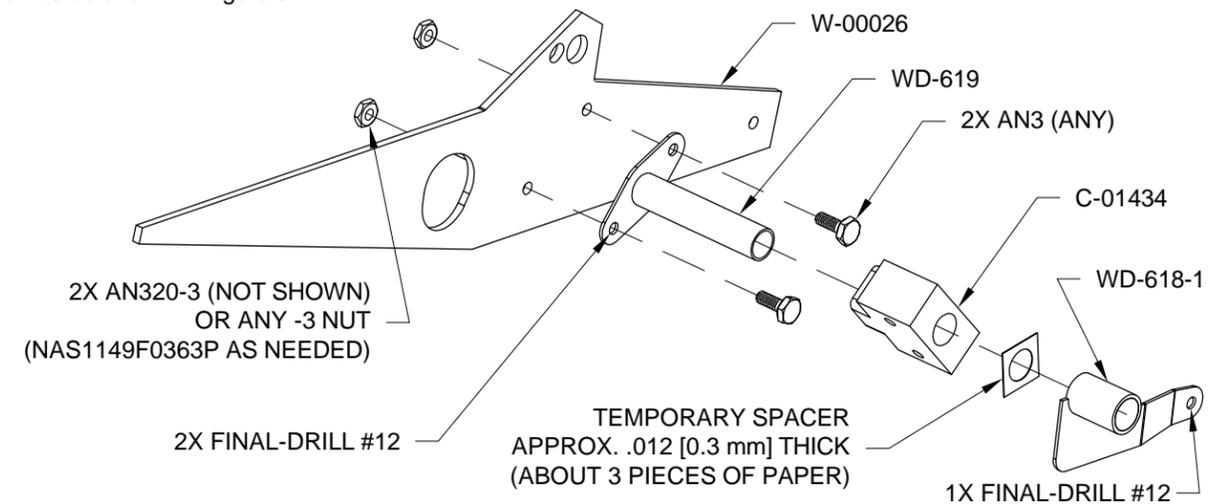

FIGURE 3: RELEASE MECHANISM - EXPLODED VIEW
Insert the WD-619 Canopy Release Assembly into the block. See Figure 3.
Step 5: Final-Drill #12 the holes in the flange of the WD-619 Canopy Release Assembly and the arm of the WD-618-1 Canopy Release Assembly where indicated in Figure 3.
Step 6: Assemble the parts using the W-00026 Alignment Template from Section 23 as shown in Figure 3.